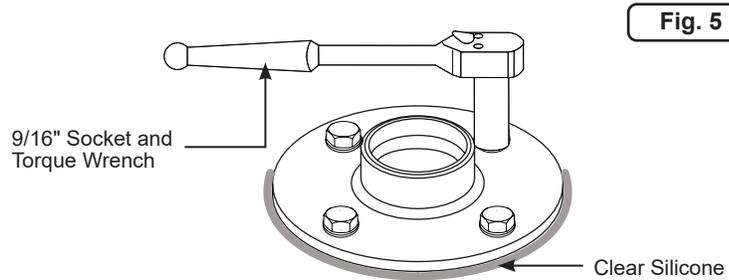

Fig. 5
6. Use a torque wrench and 9/16" socket to tighten the anchor bolts securely (approx. 40ft-lbs.) (Figure 5).
8. Apply a thick bead of clear RTV silicone around the bottom bearing plate (Figure 5).